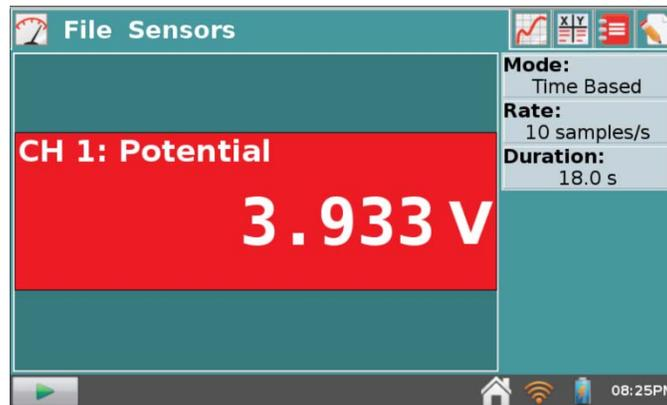

Figure 3 – LabQuest Screen with voltage reading from KJL 275i pressure sensor (at ~ 760 Torr)
5. Plug the 9 pin power supply adaptor into a 120VAC wall outlet. The KJL 275 digital display should light and display pressure of approximately 760 Torr after a few seconds. The LabQuest display (if used) should indicate approximately 3.90 V (+/-10%). See Fig. 3 below.